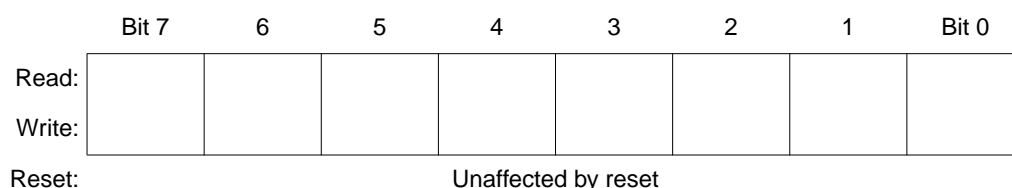

Figure 3-2. Accumulator (A)
The accumulator (A) shown in Figure 3-2 is a general-purpose 8-bit register. The CPU uses the accumulator to hold operands and results of arithmetic and non-arithmetic operations.